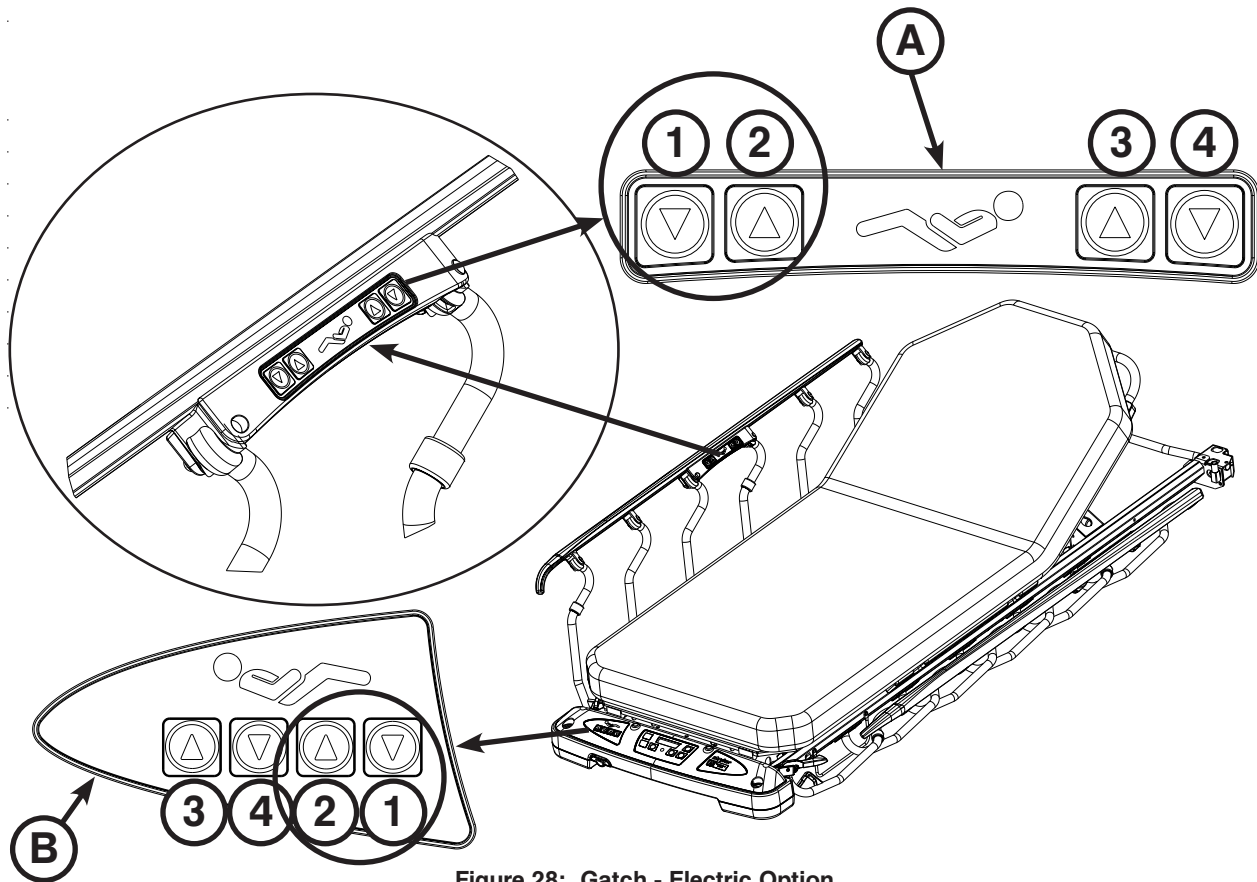

Figure 28: Gatch - Electric Option
To raise the gatch, press the UP (2) button on the siderail patient controls (A) or foot end nursing controls (B) until the gatch has reached the desired height (5.5"/14 cm minimum) as shown in Figure 28.
To lower the gatch, press the DOWN (1) button until the gatch has reached the desired height (5.5"/14 cm minimum) as shown in Figure 28.